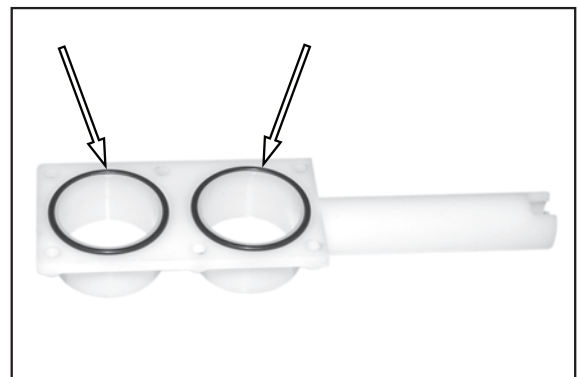

Figure 64.
3. See Figure 64. If necessary, replace the two o-rings.